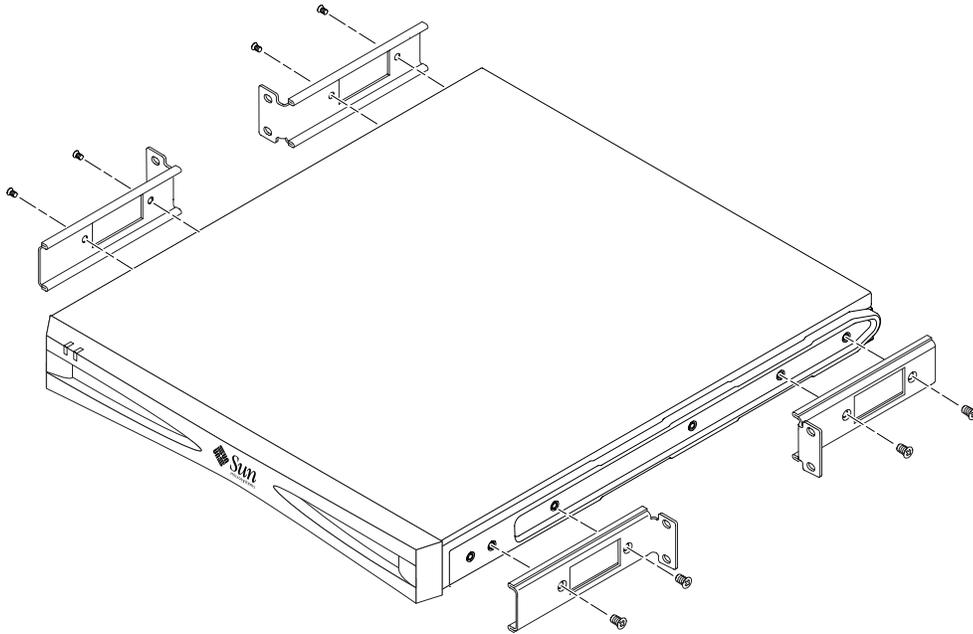

FIGURE 2-15 Installing the Fixed Mounting Brackets
1. Remove three of the screws from the plastic slide-mount fixings on the right and left panels of the unit (see FIGURE 2-15).
Use the Phillips-head countersunk screws provided. See FIGURE 2-15, but do *not* install the rear brackets yet.